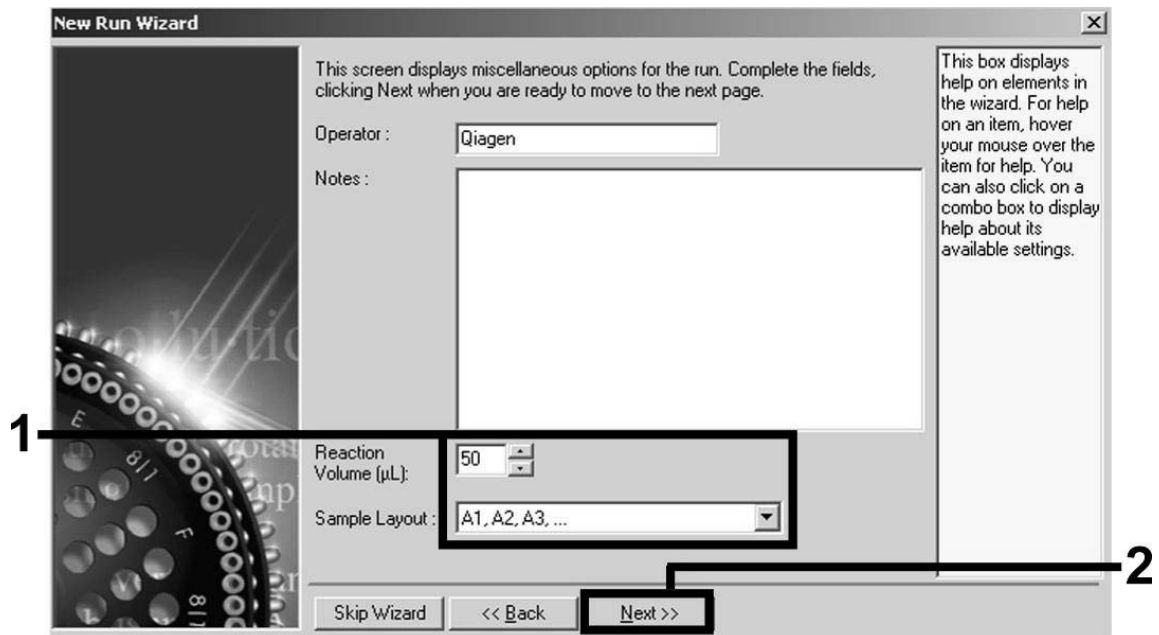

Figure 6. Setting the general assay parameters.
5. Select 50 for the PCR reaction volume and click “Next” (Figure 6).